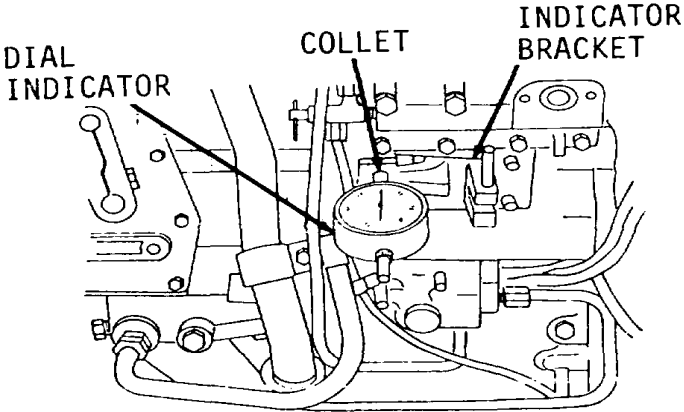

Figure 3-103.
- 6. Install dial indicator in collet (Figure 3-103). Tighten collet just enough to hold dial indicator.